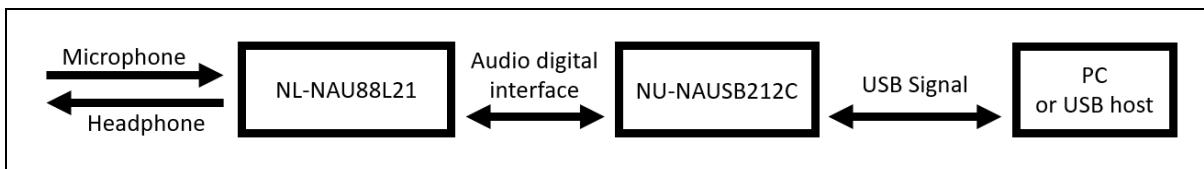

Figure 2-5 Signal Path of NU-NAUSB212C and NL-NAU88L21
3. CN2 of NU-NAUSB212C uses USB Cable to connect to a PC under Windows system. (If possible, please do not connect to the PC through USB HUB). Figure 2-5 shows the audio signal path after the two boards are connected to each other.